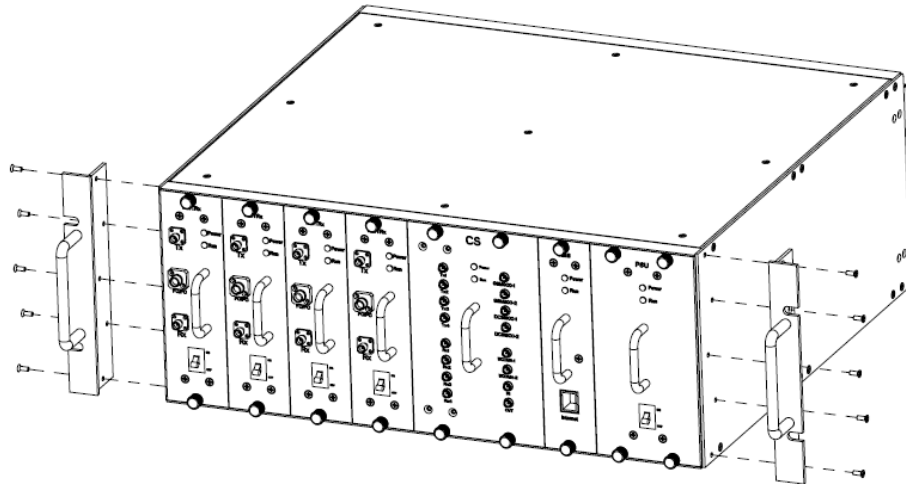

Figure 20 Mounting Brackets for 19" Rack Installation
3. Connect the cabinet mounted earth-bonding cable between the two lock and flat washers as shown in Figure 20. Ensure the grounding surface is clean and free of paint, insulating material or contaminants.